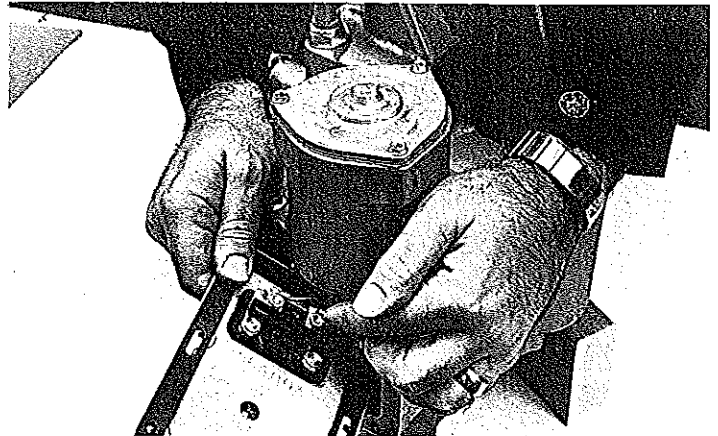

FIGURE 2
Remove (2) #8-32 nuts holding the red and black electric motor wires to the electric switch. It is important that the wires to the switch are positioned just as shown (Figure 2). The red wire is on the left terminal and the black wire is on the right when facing the opening.